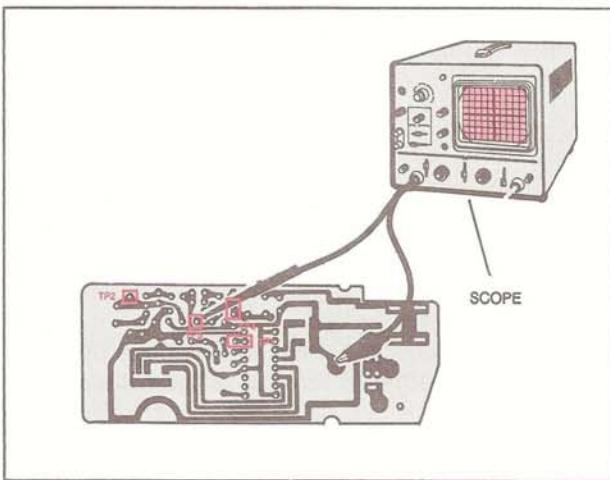

FIG. 63
2. Attach the scope probe to Test Point TP3 on the FOIL SIDE of the PC board and the ground lead to the (-) terminal of the battery (See Fig. 63).